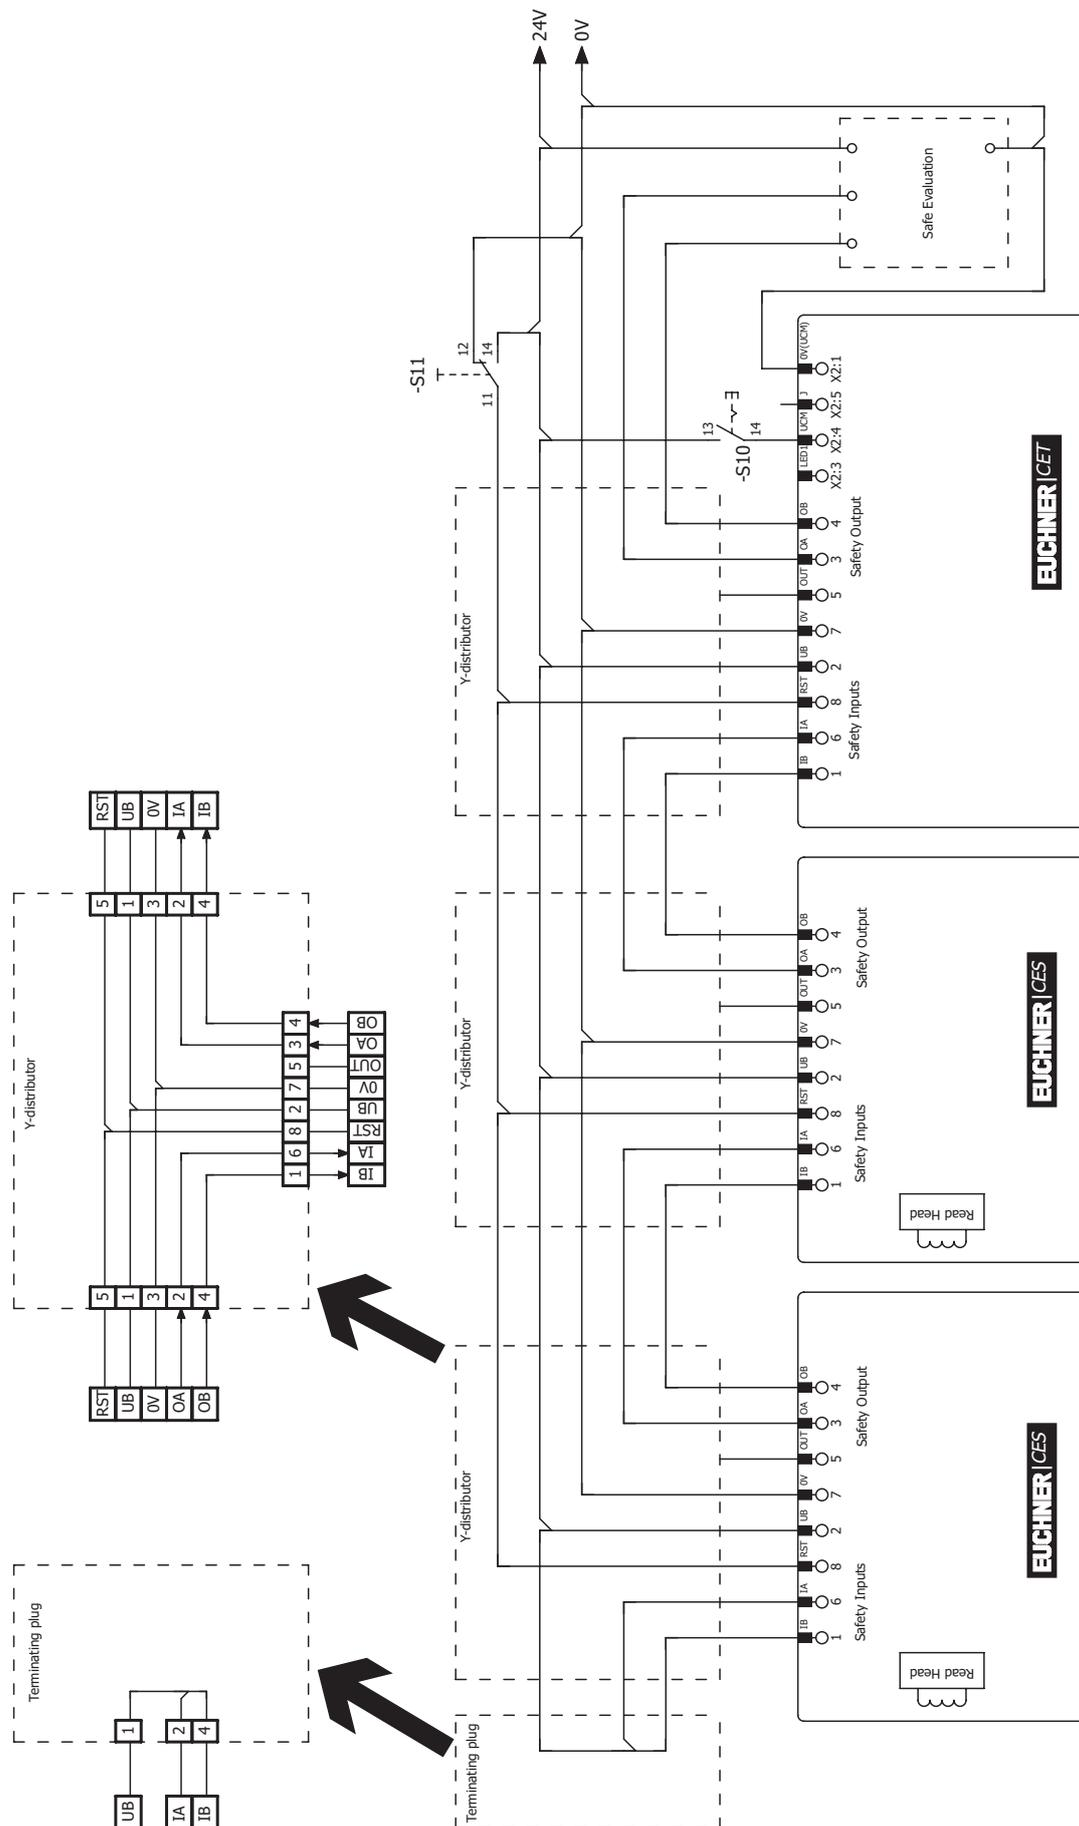

Fig. 14: Connection example for operation in a CES-AR switch chain
- › On the use of the CET-AR with feedback loop and start button, this must be in the last position in the switch chain (see *Fig. 14 on page 34*).
- › A common signal must be used for all switches in the chain. This can be a changeover switch or the output of a control system. A pushbutton is not suitable, because Reset must always be connected to GND during operation (see switch S11 in *Fig. 14 on page 34*).
The RST input must be connected as shown in *Fig. 14 on page 34* to permit this.